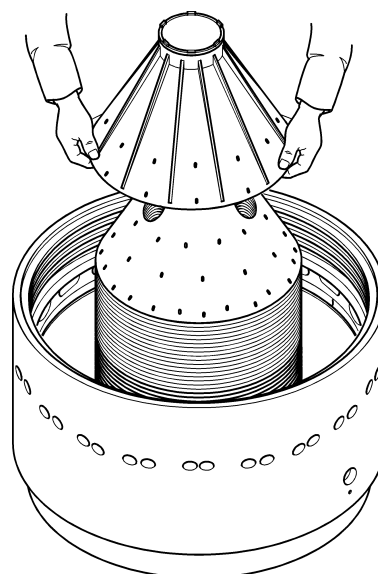

Figure 6.12
- 10) Insert the **finned upper disk** (Fig. 6.12), that distinguishes itself from the other disks for the higher thickness and for the shimming fins.